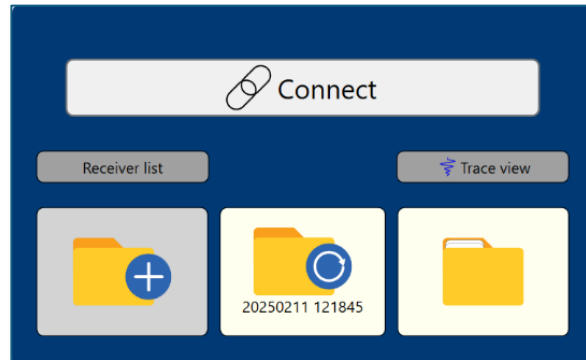

Figure 5 Talon-2 main screen
3. Start Talon-2. You are presented with the project options as shown in Figure 5.